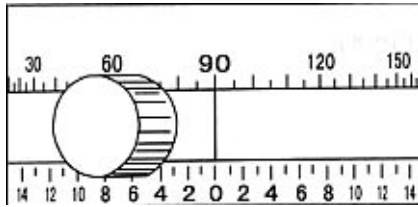

Fig. 7
- (3) Adjustment of ocular visibility. To obtain precise and reliable measuring result, ocular visibility shall be adjusted before measurement. The method is: observe black reticule digitals of eyepiece dividing plate 6 in eyepiece visual field. At the same time, the better way is to turn eyepiece cover in one way (one-way rotation can eliminate influence caused by action of eye adjustment) until the black reticule digitals become clearest.
- (4) Adjusting zero position of the device. Turn diopter measurement hand-wheel to focus drone to clearest state. At this time, the display degree of spherical lens is 0.00.
- * (5) If a prism compensator is provided, make sure that display of prism compensator is "0" before measurement. (Fig.7)